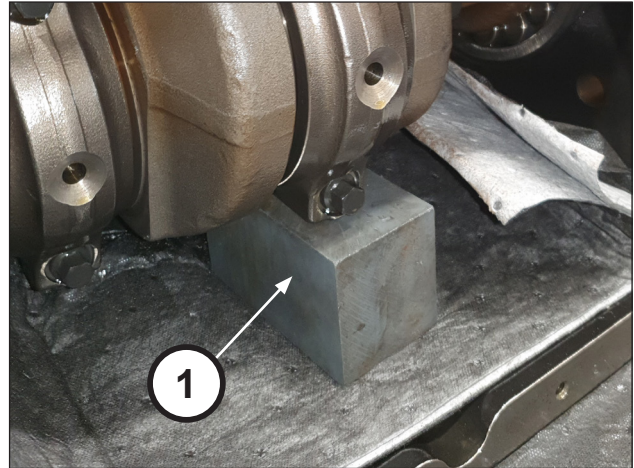

Fig. 21
Insert a shim under the con-rod to prevent the shaft rotation (pos. ①, Fig. 21).